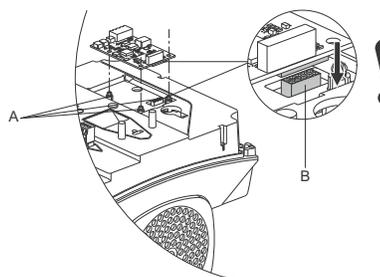

Fig. 15 Fitting the CIM module
4. Fit the CIM module by aligning it with the three plastic holders (fig. 15, A) and the connecting plug (fig. 15, B). Press the module home with your fingers.